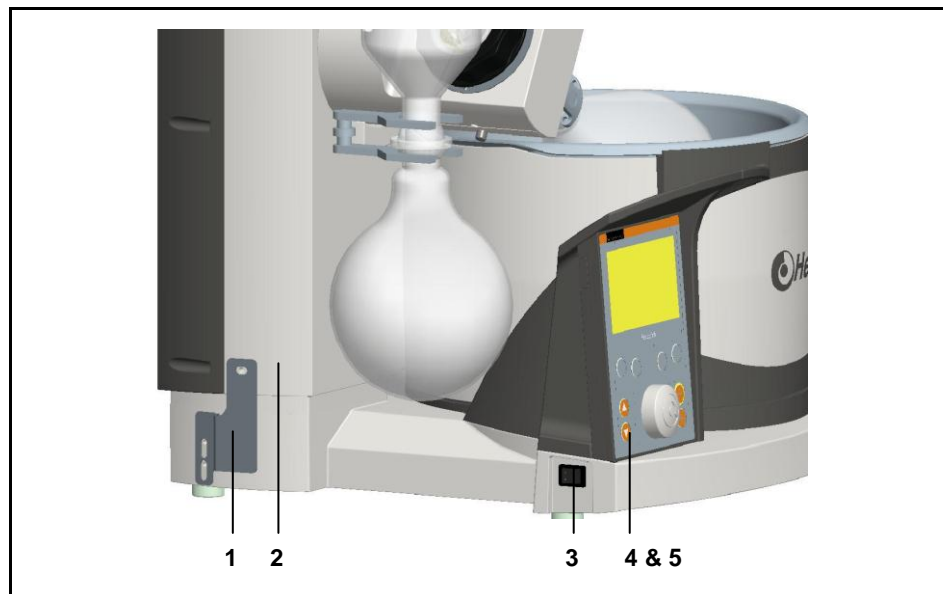

Figure 4-1: Transportation safety device
3. Hold the transport safety device as shown in Figure 4-1 and fix it with the screws M5x8 (3 pieces).